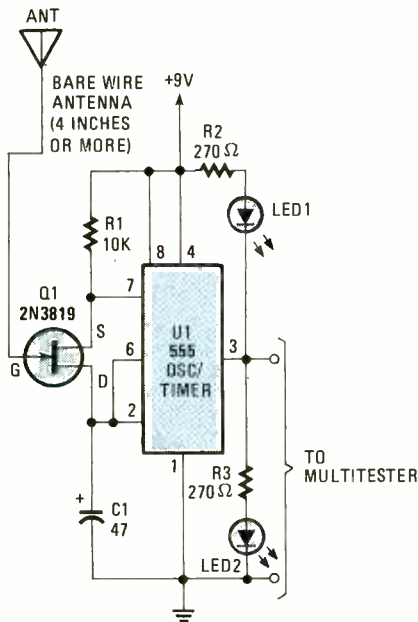

Fig. 2. This circuit is capable of detecting potentially destructive static charges, that can kill RAM or other static-sensitive devices.
**RAM-Killer Detector.** I called this circuit (see Fig. 2) the *Ram Killer Detector* because it is capable of detecting high-voltage sources like static electricity that may have built up on your body. That static electricity can kill your RAM or other static-sensitive device. The circuit is so simple, I feel like the inventor of the paper clip! I was surprised that I didn't think of it sooner. It uses only seven components, including a 555 oscillator/timer. It also uses a FET as the "eye" to detect static-charge build-up.